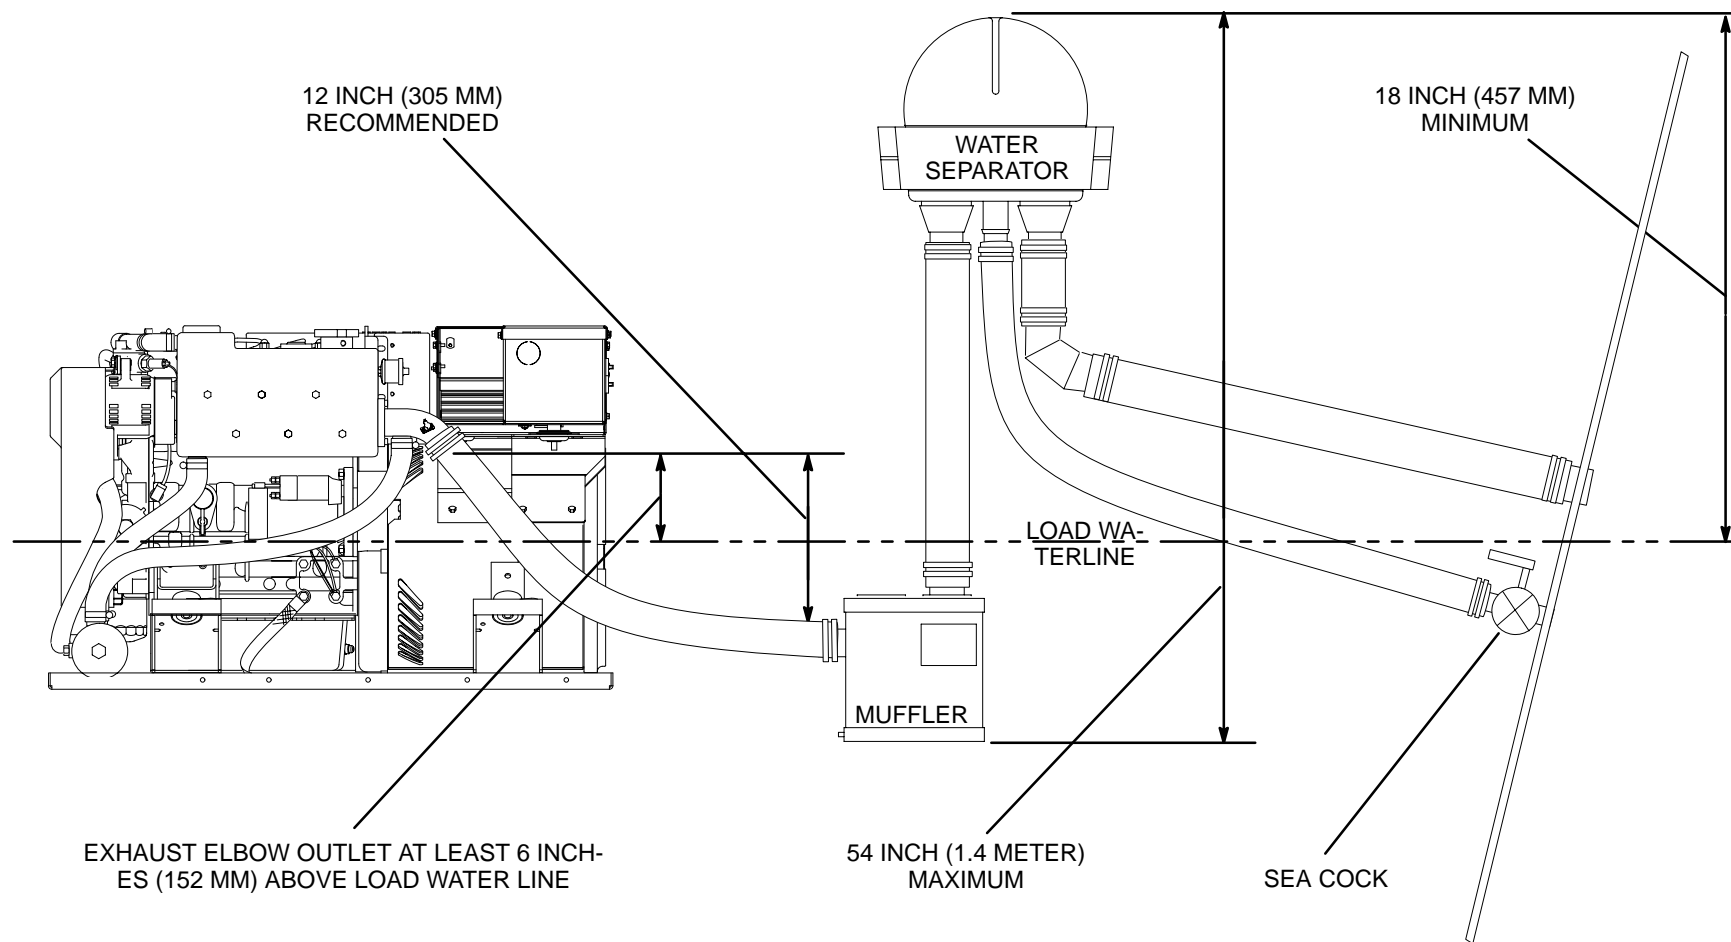
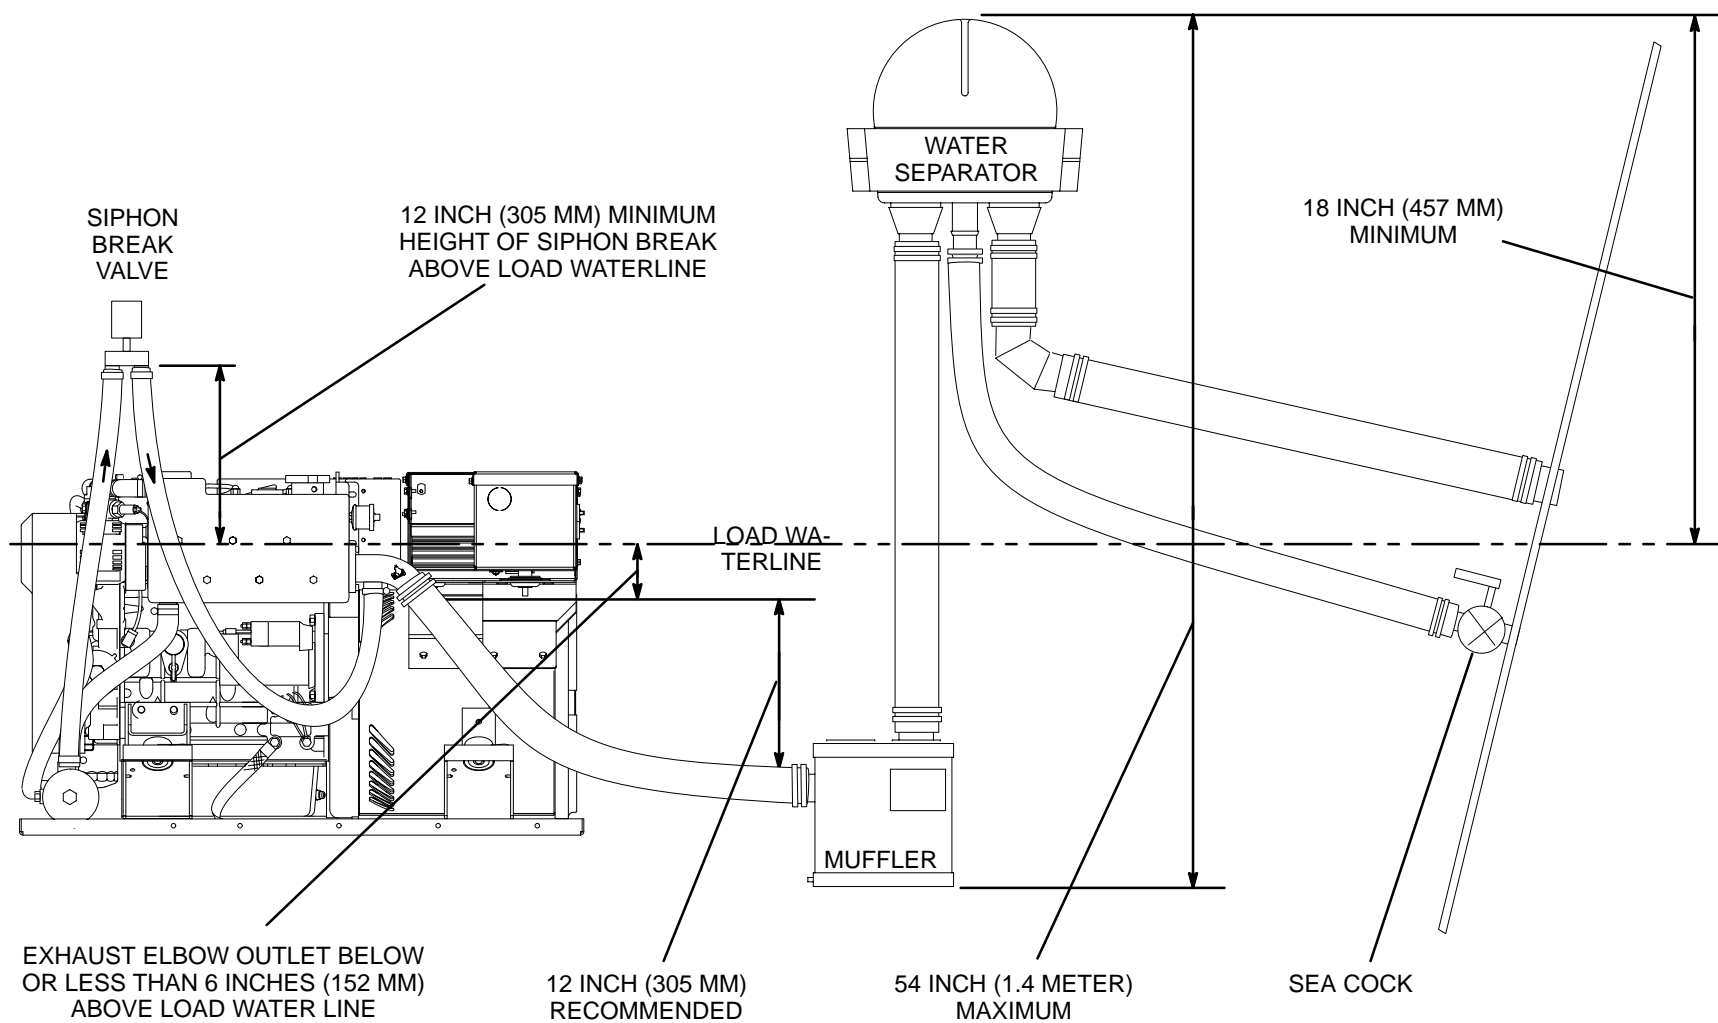
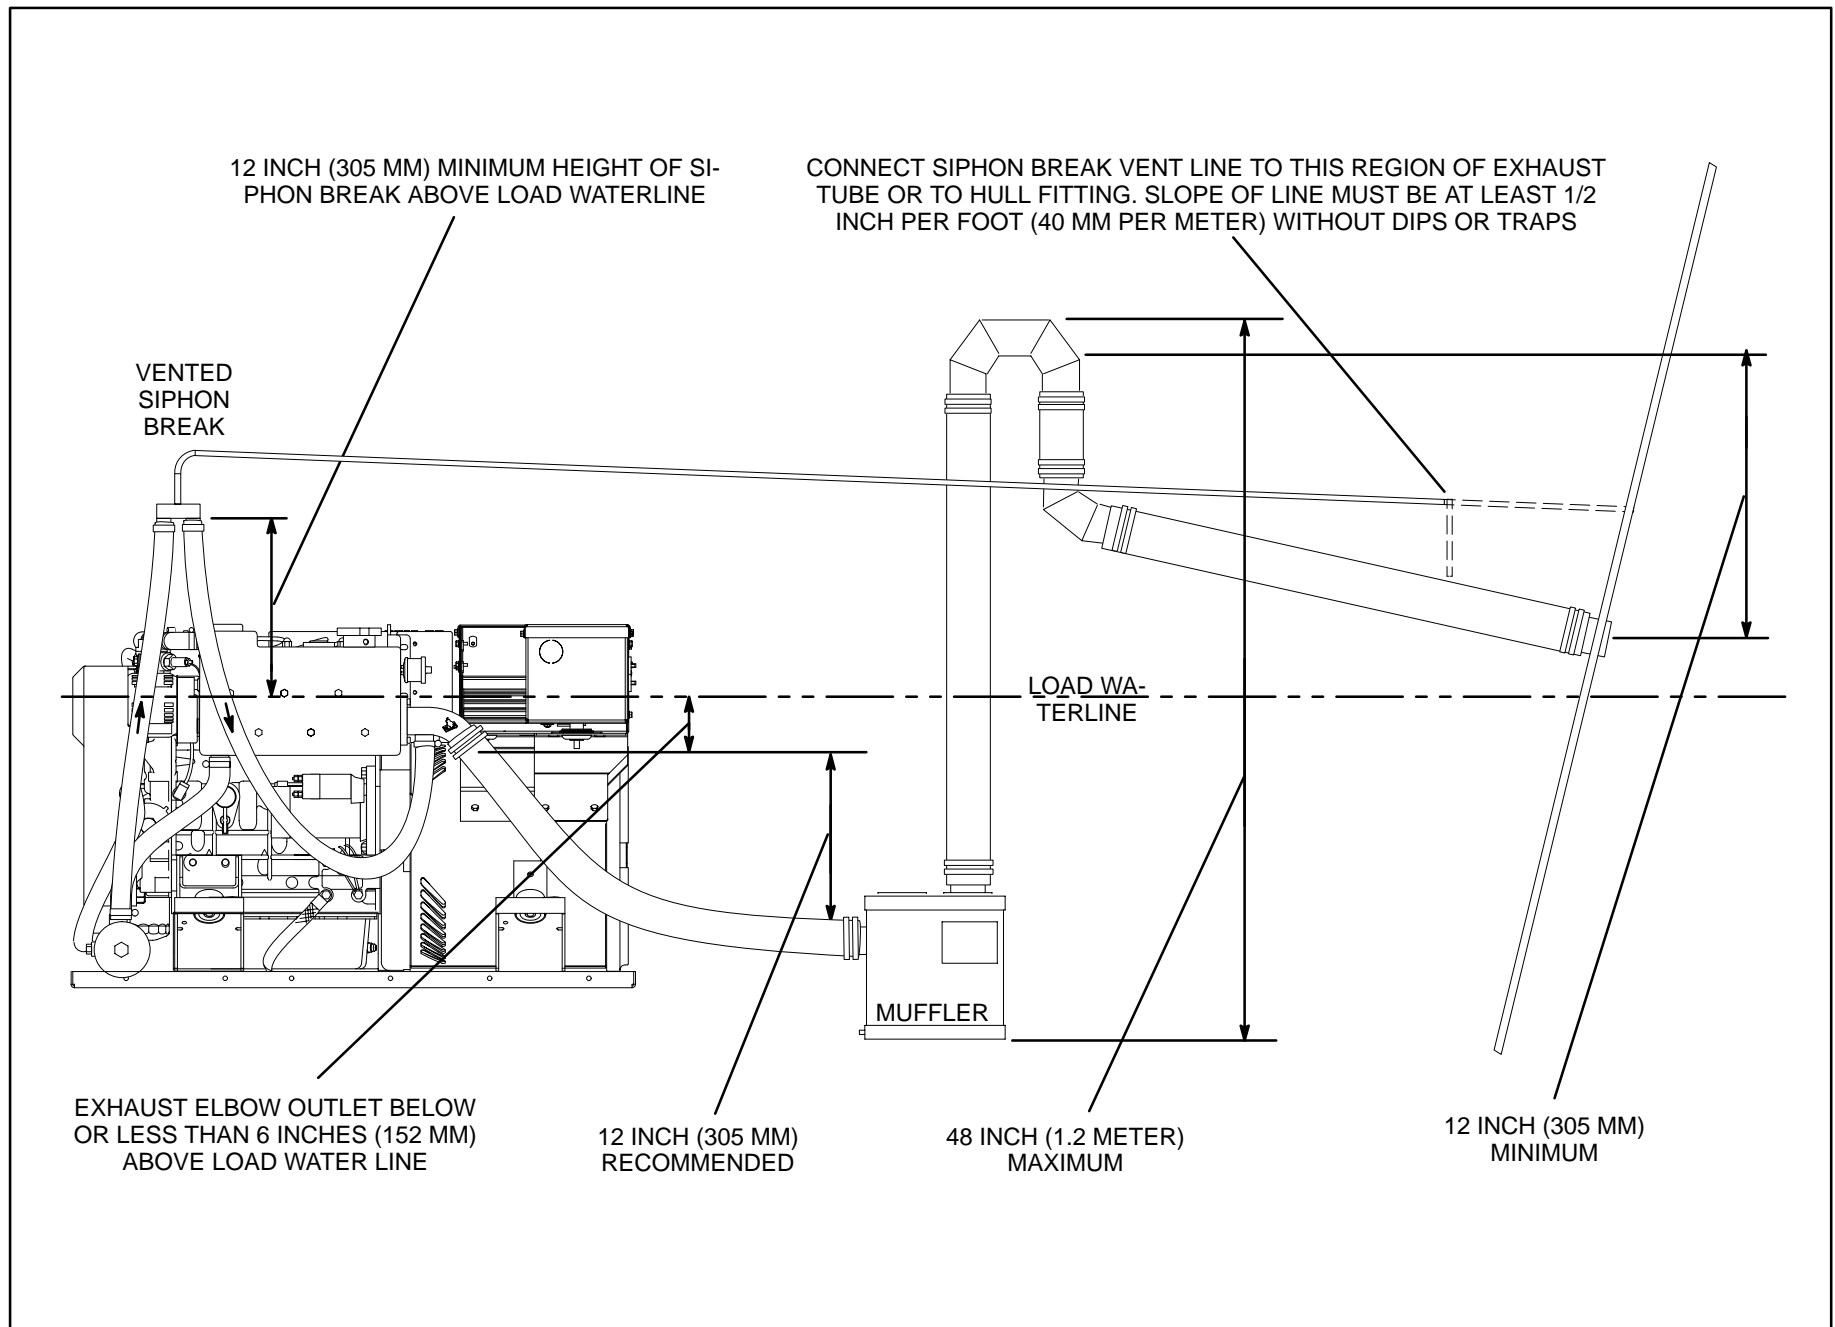

FIGURE 5. TYPICAL INSTALLATION ABOVE LOAD WATERLINE—WITH A WATER SEPARATOR
FIGURE 6. TYPICAL INSTALLATION BELOW LOAD WATERLINE—WITH A WATER SEPARATOR AND A VALVE-TYPE SIPHON BREAK
FIGURE 7. TYPICAL INSTALLATION BELOW LOAD WATERLINE—WITH A VENTED-TYPE SIPHON BREAK AND WITHOUT A WATER SEPARATOR
Figure 5 illustrates a typical exhaust system where the engine exhaust elbow is above the load water line and Figures 6 and 7 where it is below. See *Engine Cooling* regarding sea water connections. The installation must comply with applicable standards and regulations, including ABYC, NFPA and USCG (p. 5).
Hose Material and Routing: Use hose that has been approved for wet exhaust systems. Except where hose rises from the muffler to a water separator (Figures 5 and 6) or crest (Figure 7), hose must slope down at least 1/2 inch per foot (42 mm/meter) and be supported such that there are no sags. *The entire run of hose must be accessible for regular, visual inspections and replacement.* The ends of the sound shield have exhaust hose exits with grommets. A kit is available for front exhaust exit.
Hull Fitting: The exhaust hull fitting must be above the load water line and the hose leading from the muffler must peak at least 12 inches (305 mm) above the hull fitting to reduce wave wash-in (Figure 7). If a water separator is used (Figures 5 and
- The base of the muffler will not be more than 54 inches (1.4 meter) below the water separator (Figures 5 and 6) or 48 inches (1.2 meter) below the highest point in the piping (Figure 7).
When a water separator (Figures 5 and 6) is used, the muffler outlet and water separator inlet diameters must be the same size. The hull fitting for the water drain hose should be below the water line and have a sea cock.
Install a siphon break (Figures 6 and 7) between the engine heat exchanger and exhaust elbow unless the port is more than 6 inches (152 mm) above the load waterline. The top panel of the sound shield has knockouts for the hoses to pass through and the siphon break kit has grommets for the openings.